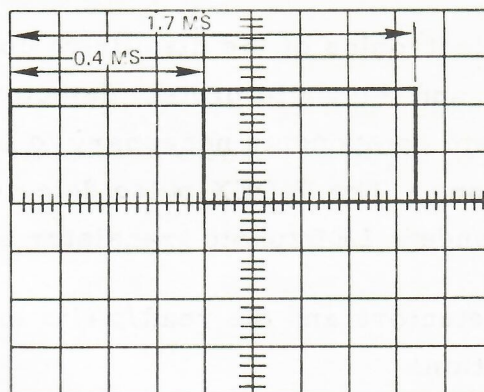

Figure 3-8. Index Pulse Duration
- i. Set oscilloscope as follows, to monitor INDEX pulse duration, as shown in Figure 3-8.